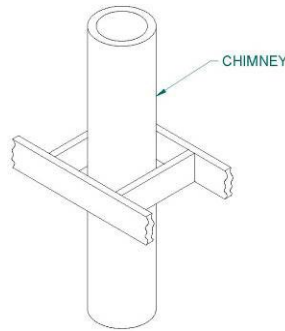

Figure 29
1. Cut and frame the holes in the ceiling, floor and roof where the chimney will pass (**see Figure 29**). Use a plumb bob to line up the center of the holes. Make sure that the size of the floor and ceiling holes are in accordance with the chimney manufacturer's instructions.